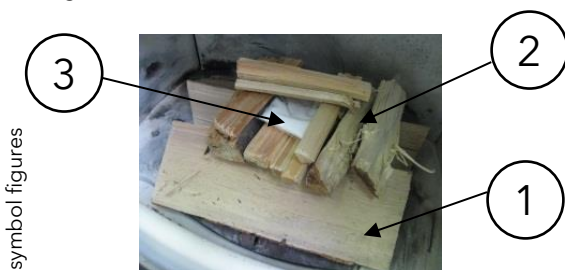

Figure 3:ignite the fire
Place 2-3 logs (approx. 1,0 kg in total) crossways in the combustion chamber (1) with sufficient distance from each other (min. 2 cm), on top of that place some softwood chippings (0,5 kg) (2) and some ignition aid and light (3). (see fig. 3)